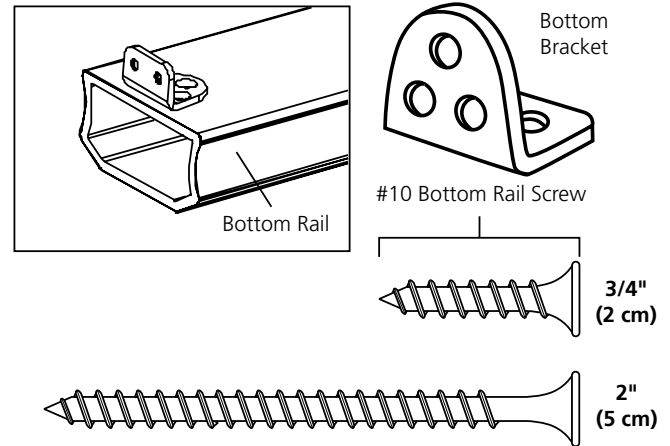

Figure 19
5. Center the bottom bracket on the underside of the bottom rail (Figure 19). Inset the bottom bracket 1/16" (2 mm) from the end of the rail. Mark the three hole locations on the rail. Pre-drill 1/8" (3 mm) holes at the desired locations. Repeat for opposite end.
Rails up to 20° may be mounted to the post face by using the In Line "L" Bracket (Figure 19). Rails should be cut at the appropriate angle to fit tight against post. Cutting rails greater than 20° will result in a rail that does not fully fit on post. Angles greater than 20° require the use of the Angle Mount Bracket.